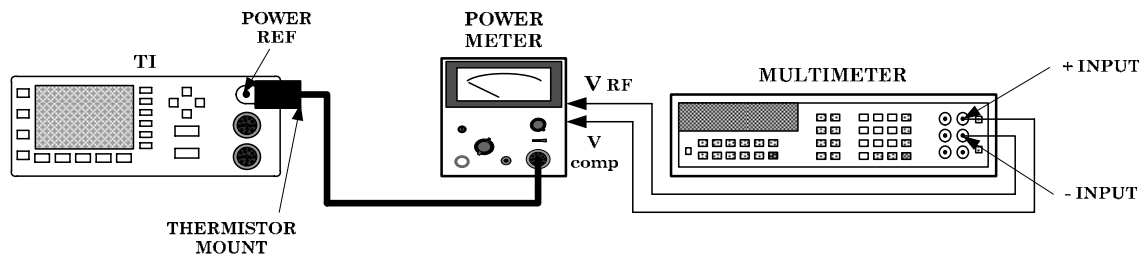

Figure 3. Power reference level - equipment setup.
- (1) Set power meter power **OFF ON** pushbutton to **OFF** position.
- (2) Disconnect thermistor mount from power meter interconnect cable.
- (3) Connect multimeter (resistance mode) between VRF terminal center conductor on power meter (rear panel) and pin 1 of thermistor mount end of power meter interconnect cable.
- (4) Round off multimeter indication to two decimal places and record this value as power meter internal bridge resistance R (value will be approximately 200 Ω).
- (5) Connect thermistor mount to power meter interconnect cable.
- (6) Connect equipment as shown in figure 3.
- (8) Set TI **POWER** switch to on and press **Preset Local, [Confirm]** keys.
- (9) Set power meter **RANGE** switch to **COARSE ZERO** and adjust front panel **COARSE ZERO** control for a zero meter indication.
- (10) Fine zero power meter on most sensitive range then set power meter **RANGE** switch to **1 mW**.
- (11) Ensure multimeter input terminals are isolated from chassis ground for (12) below.
- (12) Adjust multimeter (dc mode) controls to measure microvolts.
- (13) If multimeter indication is 400 μV or less, record multimeter indication and proceed to (15) below; if not, proceed to (14) below.
- (14) Hold power meter **FINE ZERO CONTROL** and adjust **COARSE ZERO** control for a multimeter indication 200 μV or less. Record multimeter indication.
- (15) Round off indications recorded in (13) or (14) above to two decimal places and record this value as V_0 .
- (16) Set power meter to highest range.
(17) Press TI **Zero Cal**, [**Cal**], **More**, [**Power Ref On**] keys. Record multimeter indication, (rounded off to two decimal places), as V_1 .
(18) Disconnect multimeter negative lead from power meter V_{RF} (fig. 3) and connect multimeter negative lead to power meter chassis ground. Record multimeter indication as V_{COMP} .
(19) Calculate the **POWER REF** output level PRF from the below listed formula:
(4) Connect digital multimeter (resistance mode) between VRF terminal center conductor on power meter (rear panel) and pin 1 of thermistor mount end of power meter interconnect cable.
(5) Round off digital multimeter indication to two decimal places and record this value as power meter internal bridge resistance R (value will be approximately 200 Ω).
(6) Connect thermistor mount to power meter interconnect cable.
(7) Connect equipment as shown in figure 3.
(8) Press **Preset Local**, [**Confirm**] keys.
(9) Set power meter **RANGE** switch to **COARSE ZERO** and adjust front panel **COARSE ZERO** control for a zero meter indication.
(10) Fine zero power meter on most sensitive range then set power meter **RANGE** switch to **1 mW**.
(11) Ensure multimeter input terminals are isolated from chassis ground for (12) below.
(12) Adjust multimeter (dc mode) controls to measure microvolts.
(13) If multimeter indication is 400 μV or less, record digital multimeter indication and proceed to (15) below; if not, proceed to (14) below.
(14) Hold power meter **FINE ZERO CONTROL** and adjust **COARSE ZERO** control for a multimeter indication 200 μV or less. Record multimeter indication.
(15) Round off indications recorded in (13) or (14) above to two decimal places and record this value as V_0 .